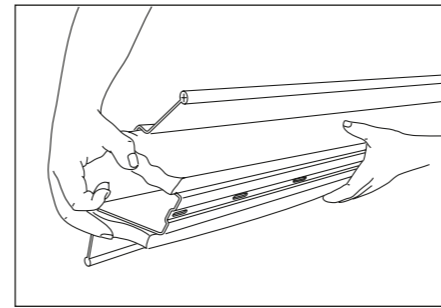

Fig. 4 - Fit foam rubber strip to each side of batten section
- 6 Insert the closed cell foam rubber strip (supplied in fixing kit), into recesses on each side of PVCu extruded dry hip batten section (Fig. 4).